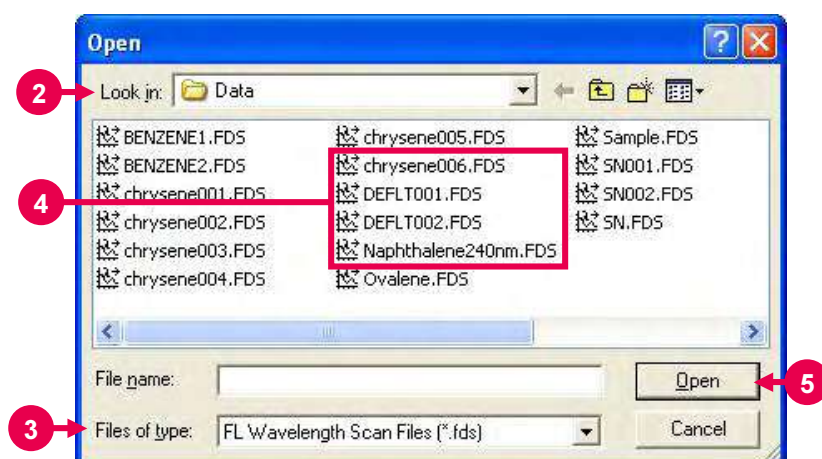
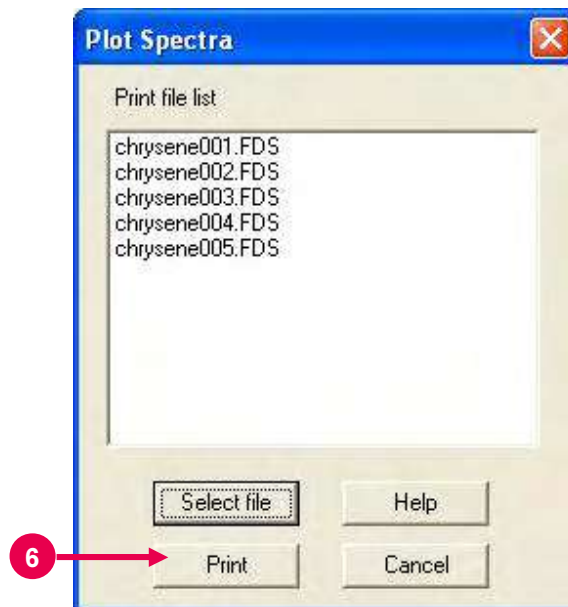

Fig. 8-24
Fig. 8-25
- (3) Specify the folder of files to be printed in "Look in." (Refer to ② in Fig. 8-24.)
- (4) Select a file type in "Files of type." (Refer to ③ in Fig. 8-24.)
- (5) Select files. (Refer to ④ in Fig. 8-24.)
- (6) After completion of selection, click **Open**. (Refer to ⑤ in Fig. 8-24.) The Plot Spectra dialog box will appear. The selected files are set in the Print file list as shown in Fig. 8-25.
- (7) After check, click **Print**. Printing will start. (Refer to ⑥ in Fig. 8-25.)